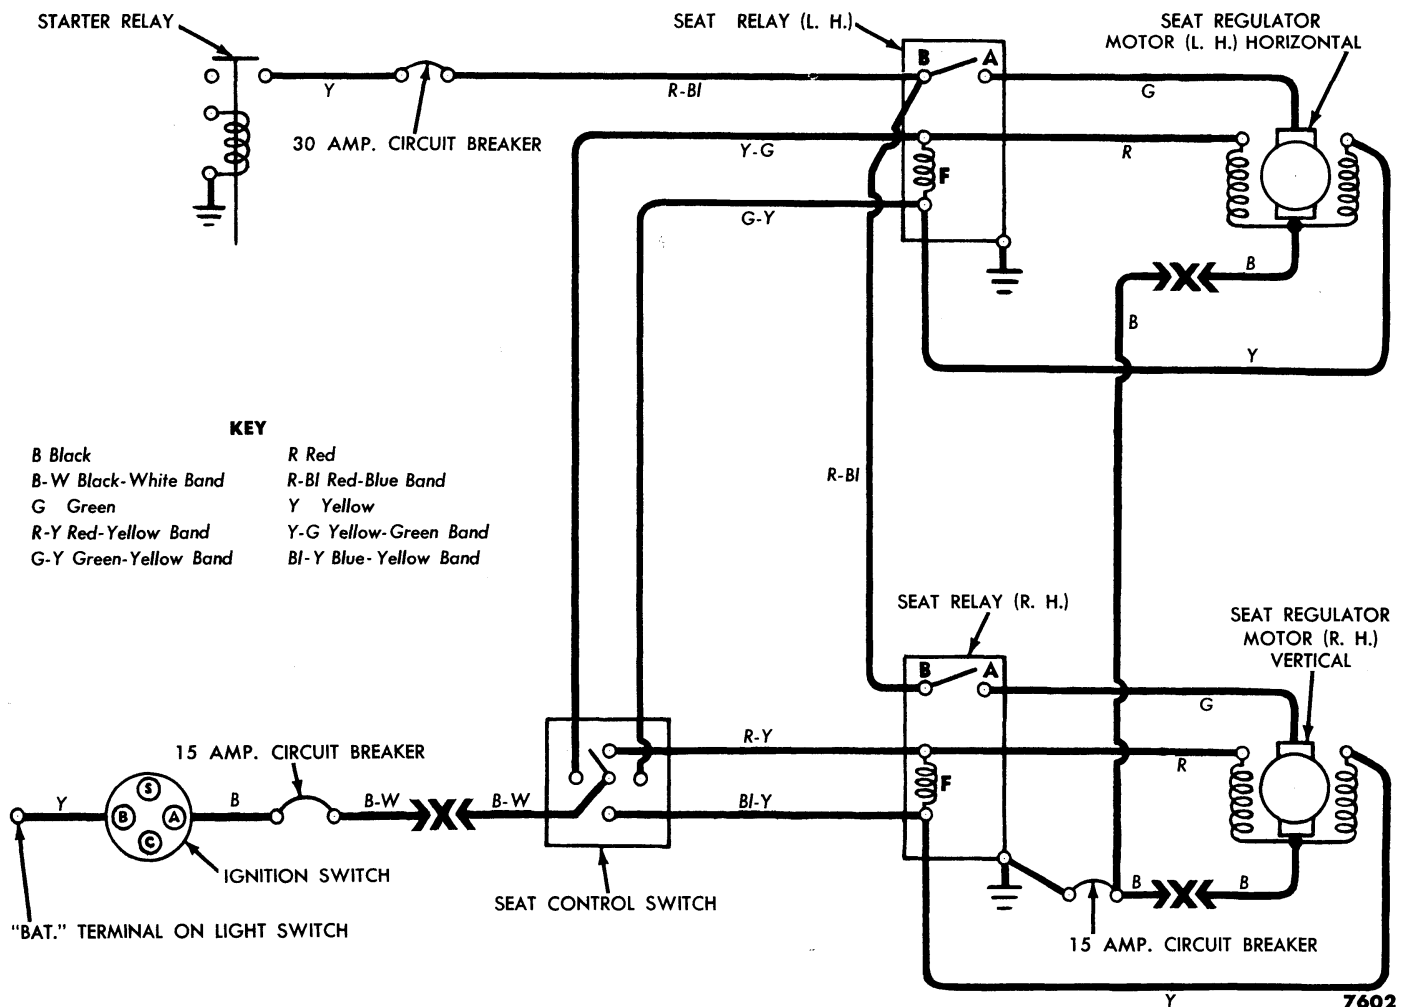

Fig. 14—Four Way Seat Electrical Circuit
Each seat regulator has a relay and an electric motor. Figure 14 shows how these parts are connected into either the power circuit or the control circuit. The power circuit starts at a 30 ampere circuit breaker under the instrument panel (red with blue band), leads through the electrical contacts in each relay, and goes through the motor armature to ground. The control circuit starts at a 15 ampere circuit breaker also under the instrument panel. This circuit breaker is connected to the accessory terminal of the ignition switch. From the circuit breaker, the control circuit (black with white band) leads to a manually-controlled, four-way, toggle switch which is mounted on the left front seat shield (Thunderbird, two switches mounted on door panel). From the toggle switch, the current splits and flows through the relay coil and the field coils of the motor.
When the toggle switch is moved to the forward position, current flows from the ignition switch terminal through one of the motor field coils and also through the coil of the horizontal regulator relay (fig. 14). The current energizes the relay coil which closes the contacts. The closing of the relay causes battery current to flow to the motor armature. The motor turns the screw jack in such a way as to move the seat forward.
(1) **BOTH REGULATORS INOPERATIVE.** If neither regulator will operate, one of the following circuit breakers may be open: the circuit breaker that protects the power circuit; the circuit breaker that protects the control circuit; or the 15 ampere circuit breaker in the common motor ground lead (conventional models) (fig. 14). The first two (power and control circuits) are located under the instrument panel; the third (in the motor ground lead) is mounted on the floor pan under the seat. Check for voltage at the relay terminal of the circuit breaker (power circuit) (red wire with blue band). If there is no voltage at this point, the trouble is in the power circuit. If there is voltage at this terminal, the trouble is probably in either the common ground or in the control circuit. Close the toggle switch and if the relay clicks, the trouble is probably in the common ground. If the relays do not click the trouble is in the control circuit.
(a) **POWER CIRCUIT.** Check the battery side of the circuit breaker of the power circuit (terminal connected to yellow wire) for voltage. If there is no voltage, check for defective wiring between the circuit breaker and the battery terminal of the starter relay (fig. 14). Repair or replace as necessary. If there is voltage at this terminal, connect an ammeter across the circuit breaker. If current is indicated on the ammeter (toggle switch open), check the wire between the circuit breaker and the horizontal regulator relay, and the wire between the two relays (red with blue band). Repair or replace grounded wires as necessary. If no current is indicated, operate the toggle switch in all four directions (two separate switches on Thunderbird), and check the current with the switch closed in each of the four positions. If the current is normal in each case, replace the circuit breaker. If the current exceeds 14 amperes when the toggle switch is closed in any one of the four positions, check the green wire between the relay and the motor of the applicable regulator unit. Repair or replace defective or grounded wiring as necessary, and check
(b) **COMMON GROUND.** Run a jumper wire from the ground terminal of the 15 ampere circuit breaker (under the seat) to ground and close the toggle switch. If the regulator operates, replace the wire between the circuit breaker ground terminal and ground (fig. 14). If the regulator does not operate, ground the opposite terminal of the circuit breaker and close the toggle switch. If the regulator now operates replace the circuit breaker. If the regulator still does not operate, check for defective ground wiring (black) from both motors. Repair or replace as necessary. If the ground wiring is in good condition, check the circuit from the 30 ampere circuit breaker through the motors as outlined in "(a) Power Circuit."
(a) **SWITCH AND RELAY TEST.** Check the voltage at the hot terminal (connected to black wire with white band) of the toggle switch (fig. 14). No voltage at this point indicates defective wiring between the switch and the circuit breaker (control circuit). Repair or replace the wiring. If voltage is available, install a jumper wire from the hot lead of the toggle switch to one of the F terminals of the relay. If the relay now clicks, replace the switch. If the relay does not click, ground the other F terminal of the relay and repeat the test. If the relay still does not click, replace the relay.
(b) **TESTING MOTOR AND CONNECTING WIRES.** Check for voltage at the B terminal of the relay (fig. 14). No voltage at this point indicates defective wiring between the relay and the circuit breaker (power circuit), or between the two relays (red with blue band). Repair or replace the wire. If voltage is available, check the green wire between the relay and the motor. Repair or replace wiring as necessary. If the unit still does not operate, repair or replace the motor.
(3) **REGULATOR OPERATES IN ONE DIRECTION ONLY.** If a regulator operates in only one direction, repair or replace the wire between the switch and the relay F terminal that applies to the direction in which the motor does not rotate. If the unit still does not operate, follow the instructions given in "(a) Switch and Relay Test" as outlined under "(2) One Regulator Inoperative." If this procedure does not correct the trouble, check the condition of the two field wires (one red, one yellow) between the relay and motor. Repair or replace as necessary. If the regulator still operates in only one direction, one of the motor field coils is open. Replace the motor.
(4) **REGULATOR OPERATES OPPOSITE TO SWITCH.** If the horizontal regulator moves forward when the switch is pushed backward (or visa versa), the wires between the switch and the horizontal motor relay are crossed. Similarly, if the vertical regulator moves up when the switch is pushed down (or visa versa), the wires between the switch and the vertical motor relay are crossed. Connect the wires to their proper terminals as shown in fig. 14.
(5) REGULATOR OPERATES SLUGGISHLY.